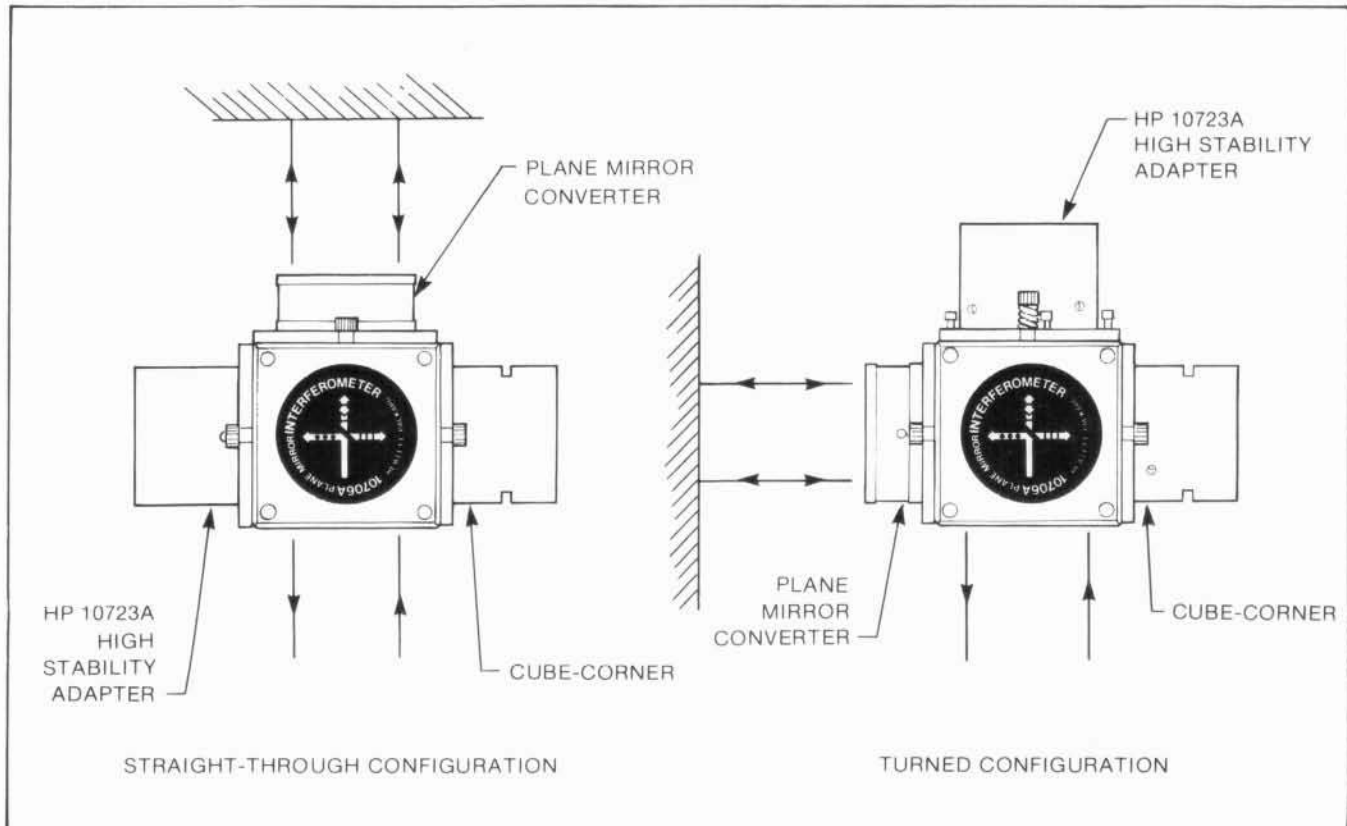

Figure 6-46. HP 10706A Conversion Using the HP 10723A
- f. Refer to *Figure 6-46*. Locate and remove the PLANE MIRROR CONVERTER.
The HP 10723A **MUST** be installed in place of the REFERENCE cube corner on the HP 10706A. If it is inadvertently installed on the other side, the thermal errors will become worse rather than better. Be certain to refer to *Figure 6-46* for the proper installation orientation.
- a. Refer to *Figure 6-46* and positively identify the position to install the HP 10723A. Note that in either configuration, the HP 10723A replaces the REFERENCE CUBE-CORNER (HP 10703A Retroreflector).
- c. Refer to *Figure 6-46*. If the interferometer is in the straight through configuration, proceed to step e and install the HP 10723A using the mounting screws that were used to mount the Reference Cube-Corner.